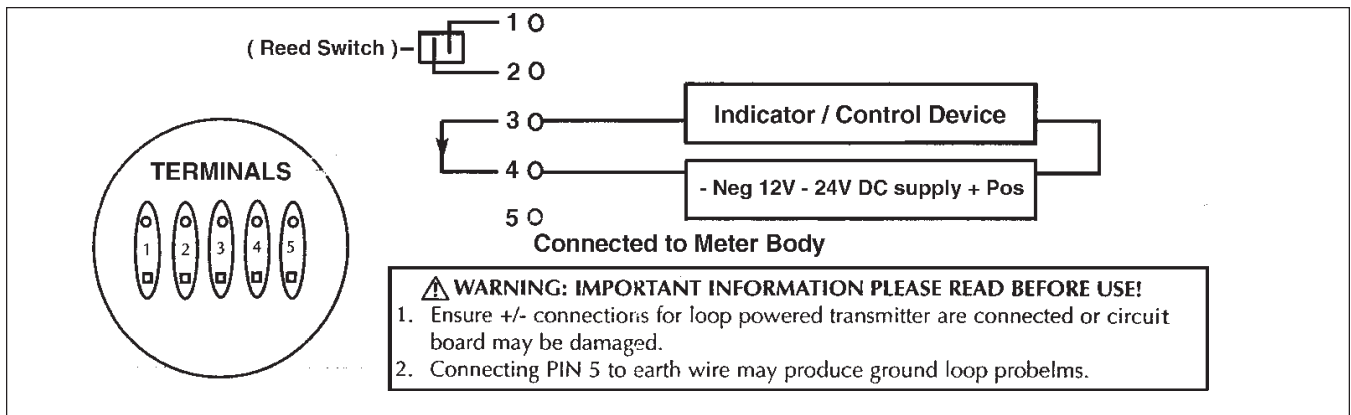

Figure 2-4 4-20 mA Loop Powered Transmitter
4. Valves should be installed to facilitate removal of the flowmeter and strainer, (See Figures 2-4 and 2-5).